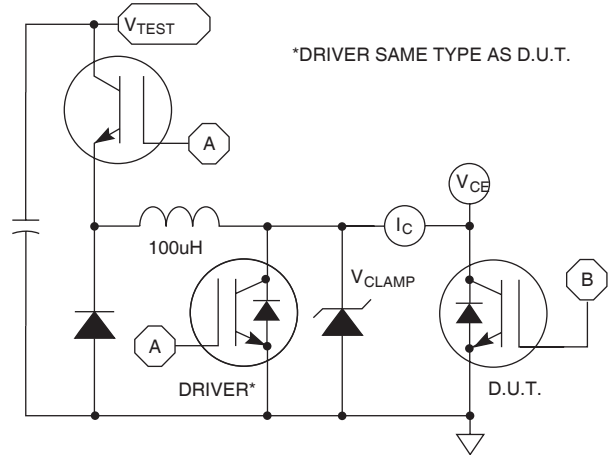

Figure 24, EON1 Test Circuit
- ① Repetitive Rating: Pulse width limited by maximum junction temperature.
- ② For Combi devices, I_{CES} includes both IGBT and FRED leakage.
- ③ See MIL-STD-750 Method 3471.
- ④ E_{on1} is the clamped inductive turn-on energy of the IGBT only, without the effect of a commutating diode reverse recovery current adding to the IGBT turn-on loss. (See Figure 24)